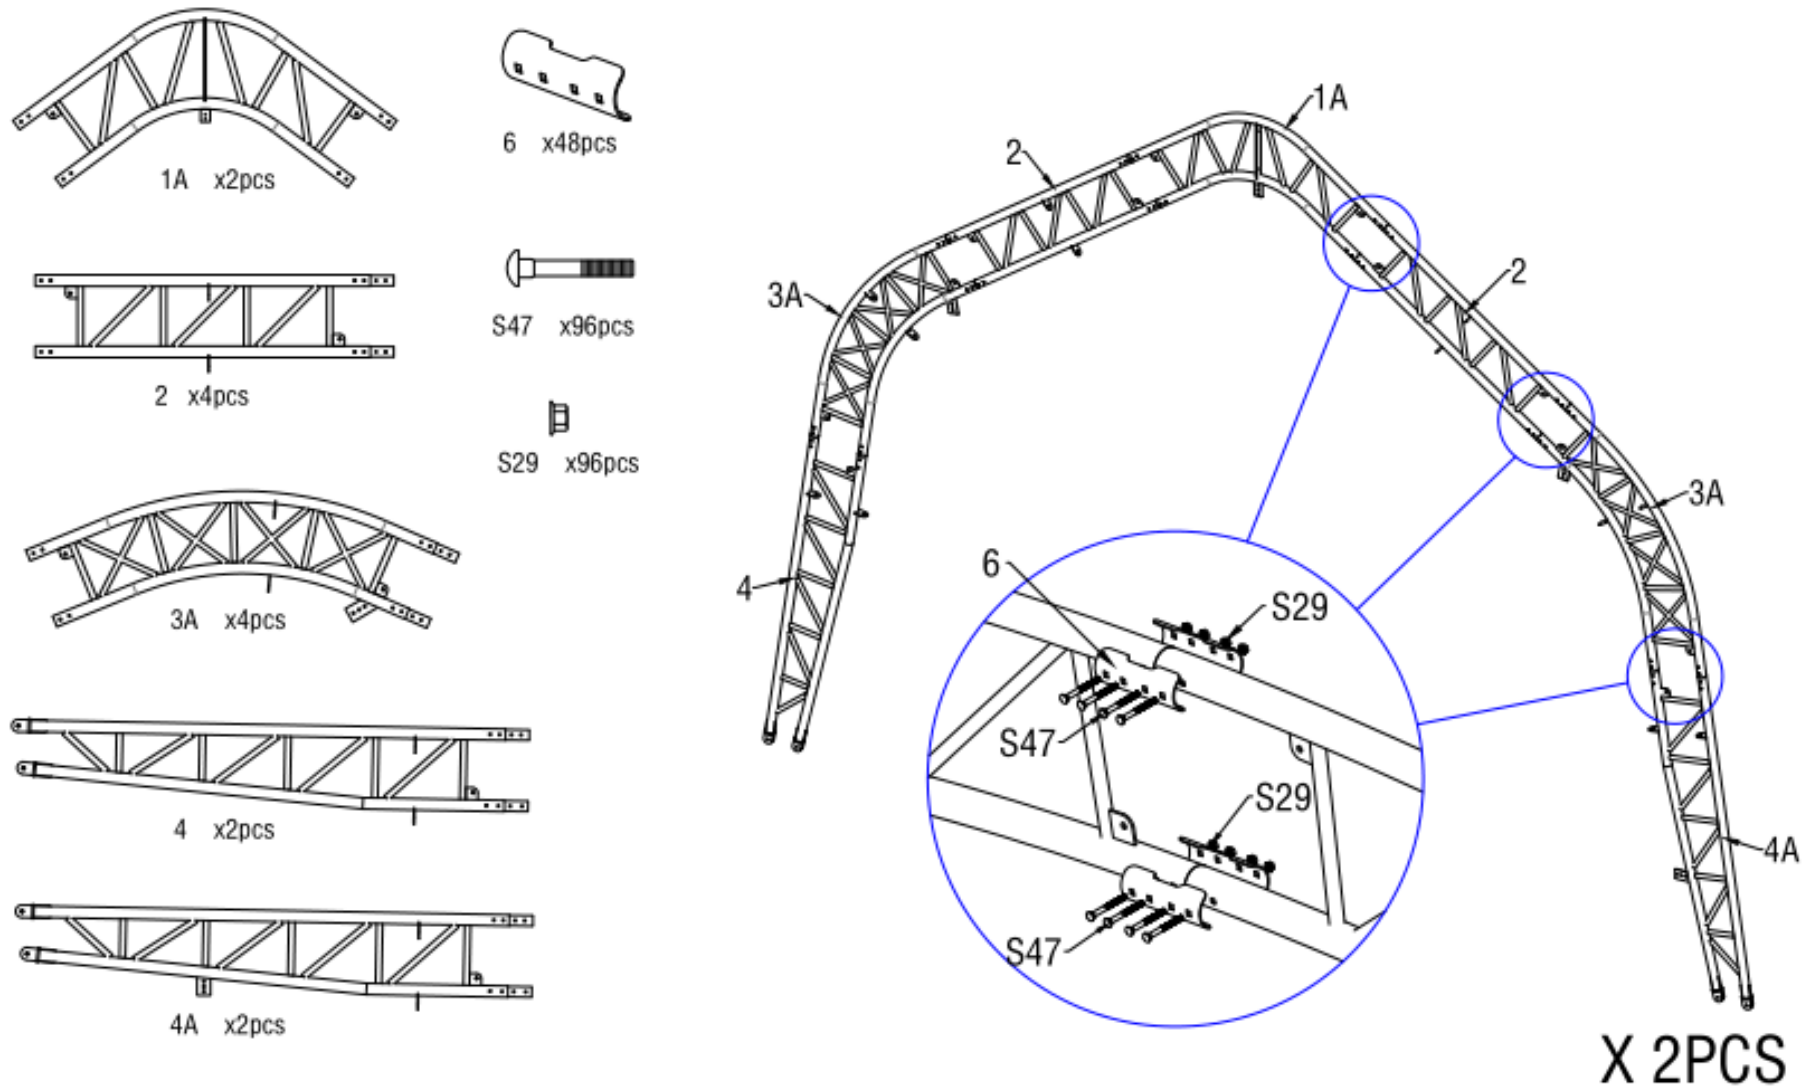

Figure 3
1. As Figure 3 shown to find one Top roof tube in the front and back door (No.1), two Roof curving tube (No. 2), two Shoulder Tube in front and back door (No. 3A), one Lower curving tube in front and back door(4A), one Lower curving tube (4) and assemble the first group and final group of arch with Screw M8x70 (No.S47). **DO NOT install the screw on the top of the truss where the fabric will rest.**